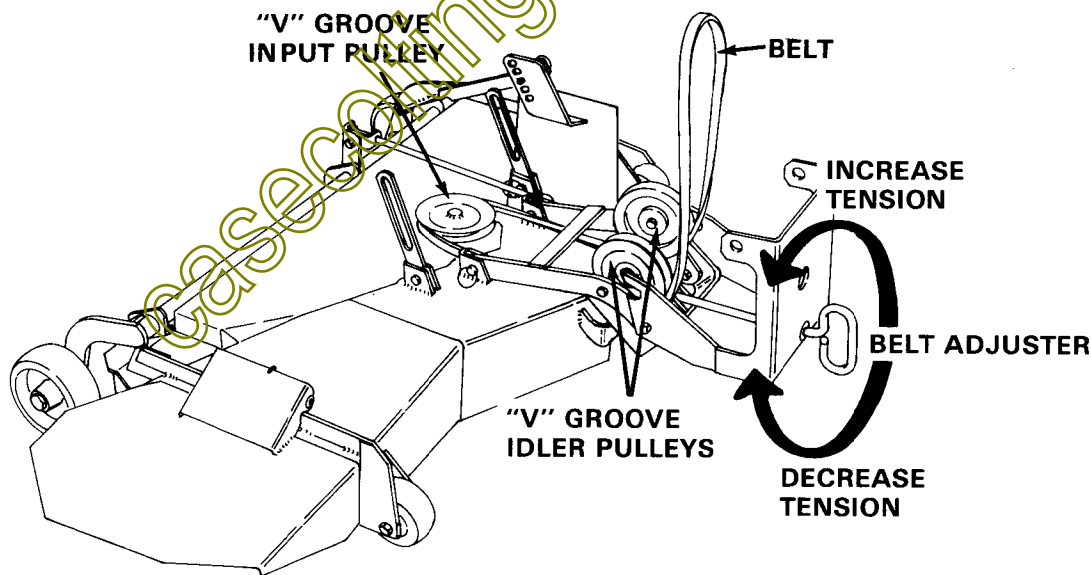

FIGURE 15
- a. Make sure the belt is correctly located on each pulley. See Fig. 15.